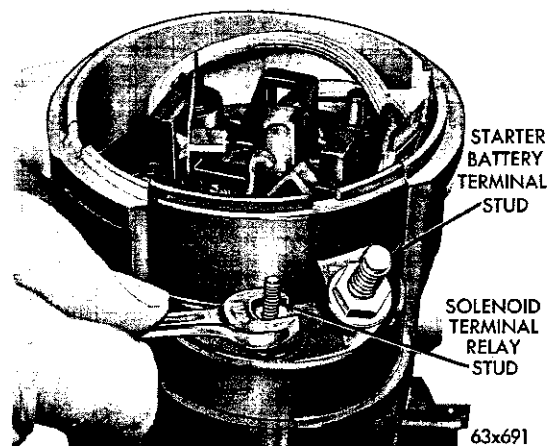
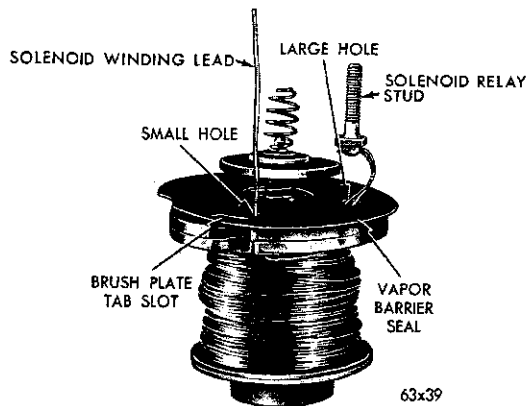

Fig. 24—Removing Solenoid Terminal Nut
Fig. 25—Solenoid Assembly Removed
- (10) Remove nut ($1\frac{1}{2}$ wrench), steel washer and insulating washer from the solenoid terminal (Fig. 24).
- (11) Straighten the solenoid wire and remove the brush holder plate with brushes as an assembly.
- (12) Remove the ground screw from the starter gear housing.
- (13) Remove the solenoid assembly from the gear housing well (Fig. 25).
- (14) Remove the nut, steel washer and sealing
the solenoid contact seal over the wires, inserting the double wires of the terminal stud into the large hole (Fig. 25) and the solenoid winding lead wire into the small hole.
CAUTION: The contactor must not touch the double wires when the solenoid is energized after the assembly is completed, (Fig. 25).